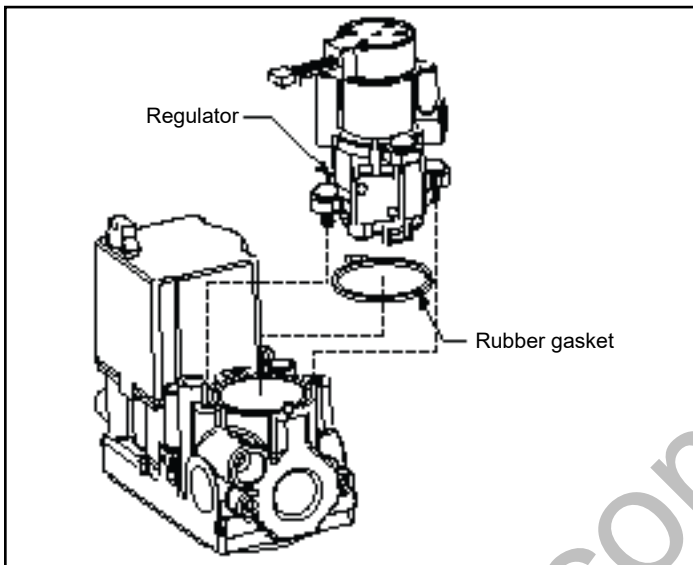

Figure 85 - Valve Regulator
- Using Torx T20 driver or slotted screwdriver, remove and discard the regulator and rubber gasket in the face of the valve (Figure 85).